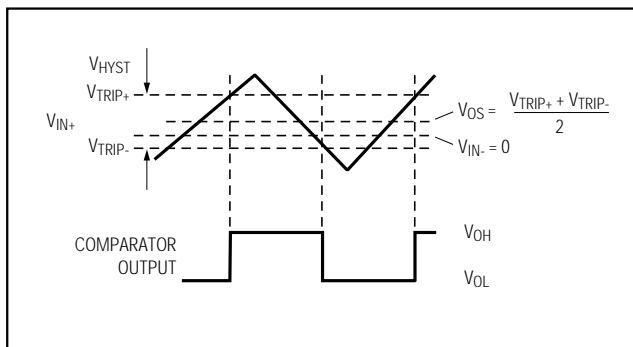

Figure 1. Input and Output Waveforms, Noninverting Input Varied
**Note 3:**  $V_{OS}$  is defined as the mean of trip points. The trip points are the extremities of the differential input voltage required to make the comparator output change state (Figure 1).
**Note 4:** The difference between the upper and lower trip points is equal to the width of the input-referred hysteresis zone (Figure 1).
**Note 5:** Propagation Delay is guaranteed by design. For low overdrive conditions,  $V_{TRIP}$  (see Figure 1) is added to the overdrive.
Most high-speed comparators can oscillate in the linear operating region because of noise or undesired parasitic feedback. This tends to occur when the voltage on one input is equal to or very close to the voltage on the other input. The MAX976/MAX978/MAX998 have internal hysteresis to counter parasitic effects and noise. The hysteresis in a comparator creates two trip points: one for the rising input voltage and one for the falling input voltage (Figure 1). The difference between the trip points is the hysteresis. When the comparator input voltages are equal, the hysteresis effectively causes one comparator input voltage to move quickly past the other, taking the input out of the region where oscillation occurs.
Figure 1 illustrates the case where  $IN-$  has a fixed voltage applied and  $IN+$  is varied. If the inputs were reversed, the figure would be the same, except with an inverted output.